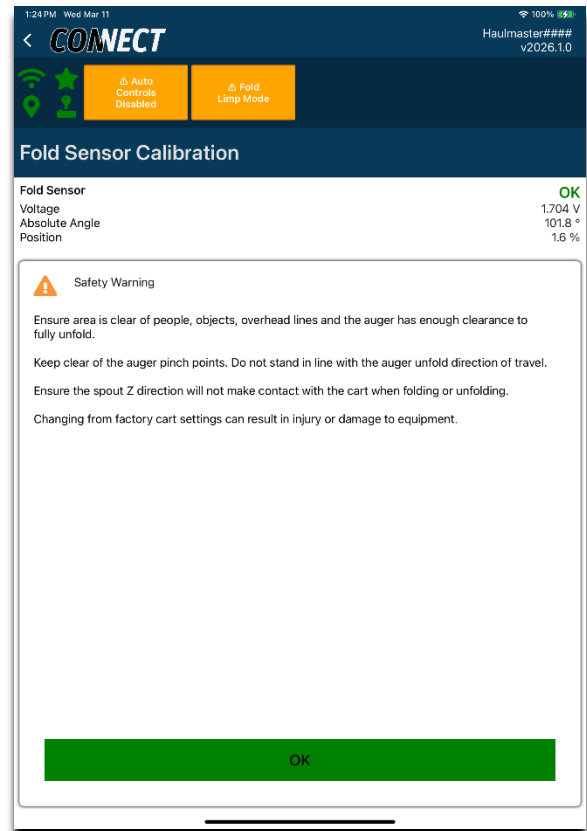

Figure 53 Safety Warning
6. A **Safety Warning** screen will appear. See Figure 53. After reading the safety warning, hit **OK** to acknowledge that you understand the warning. Each sensor will have its own set of safety warnings.